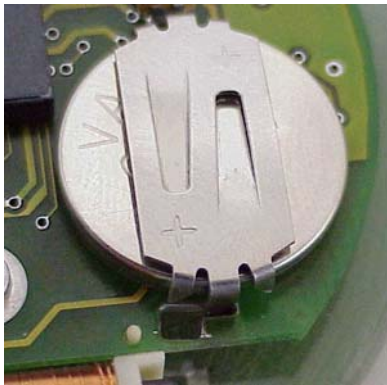

Fig 3
6. Carefully refasten the battery holder on the circuit board (Fig. 3).